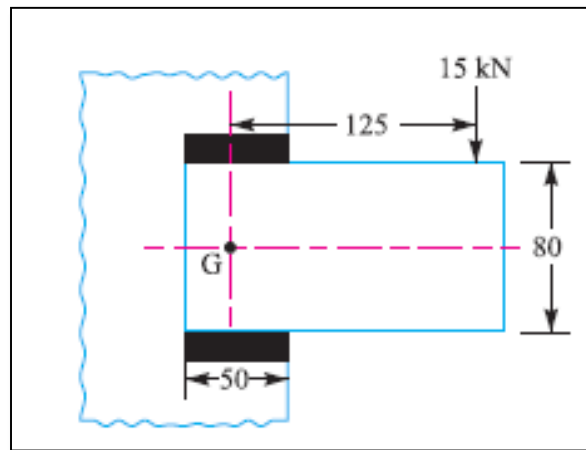

Fig.1
- 2B.** A bracket carrying a load of 15 kN is to be welded as shown in Fig. 1. Find the size of weld required if the allowable shear stress is not to exceed 80 MPa. **(05)**
- 4A. A mild steel shaft transmits 20 kW at 200 r.p.m. It carries a central load of 900N and is simply supported between the bearings 2.5 metres apart. Determine the size of the shaft, if the allowable shear stress is 42 MPa and the maximum tensile or compressive stress is not to exceed 56 MPa. What size of the shaft will be required, if it is subjected to gradually applied loads? (05)
- 4B. A simply supported beam has a concentrated load at the centre which fluctuates from a value of P to $4P$. The span of the beam is 500 mm and its cross-section is circular with a diameter of 60 mm. Taking for the beam material an ultimate stress of 700 MPa, a yield stress of 500 MPa, endurance limit of 330 MPa for reversed bending, and a factor of safety of 1.3, calculate the maximum value of P . Take a size factor of 0.85 and a surface finish factor of 0.9. (05)
- 5A. A mild steel shaft of 50 mm diameter is subjected to a bending moment of 2000 N-m and a torque T . If the yield point of the steel in tension is 200 MPa, find the maximum value of this torque without causing yielding of the shaft according to: 1. The maximum principal stress; 2. The maximum shear stress; and 3. The maximum distortion strain energy theory of yielding. (06)
- 5B. Deduce a relation for Soderberg method for combination of stresses. (04)